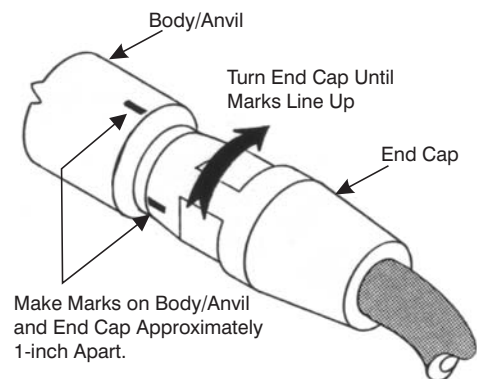

Figure 9-27. Tighten End Cap.
9. Tighten the End Cap to a torque of 550-ft.-lbs (745nm). If a torque wrench is not available, use the following procedure. See Figure 9-27.